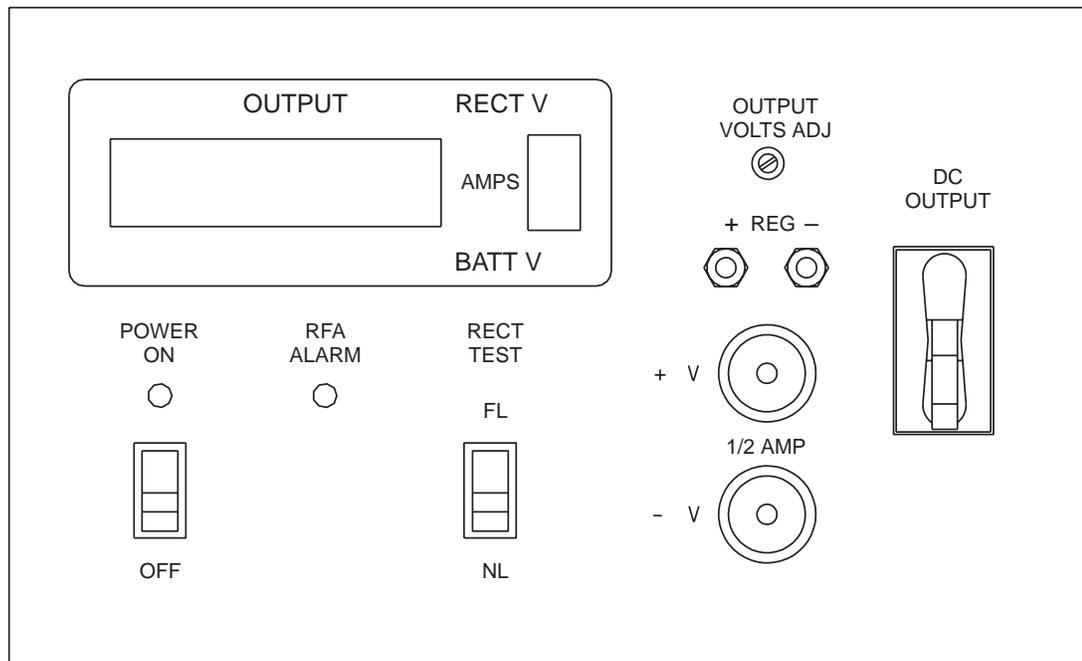

Figure 2-1: Control Panel of J85502B-1 Rectifier
- The **CM3** circuit module (207A meter board) controls the digital **Output** meter on the control panel of List 10 rectifiers. The meter displays the rectifier's output current, voltage, or the plant battery voltage depending on the three-position selector switch (see Figure 2-1).
Figure 2-1 shows the control panel on the front of the J85502B-1 50-ampere rectifier. The following list describes the controls and indicators on the control panel. These features should be observed and manually operated during normal rectifier performance. Bold letters indicate labels that appear on the control panel or inside the rectifier.